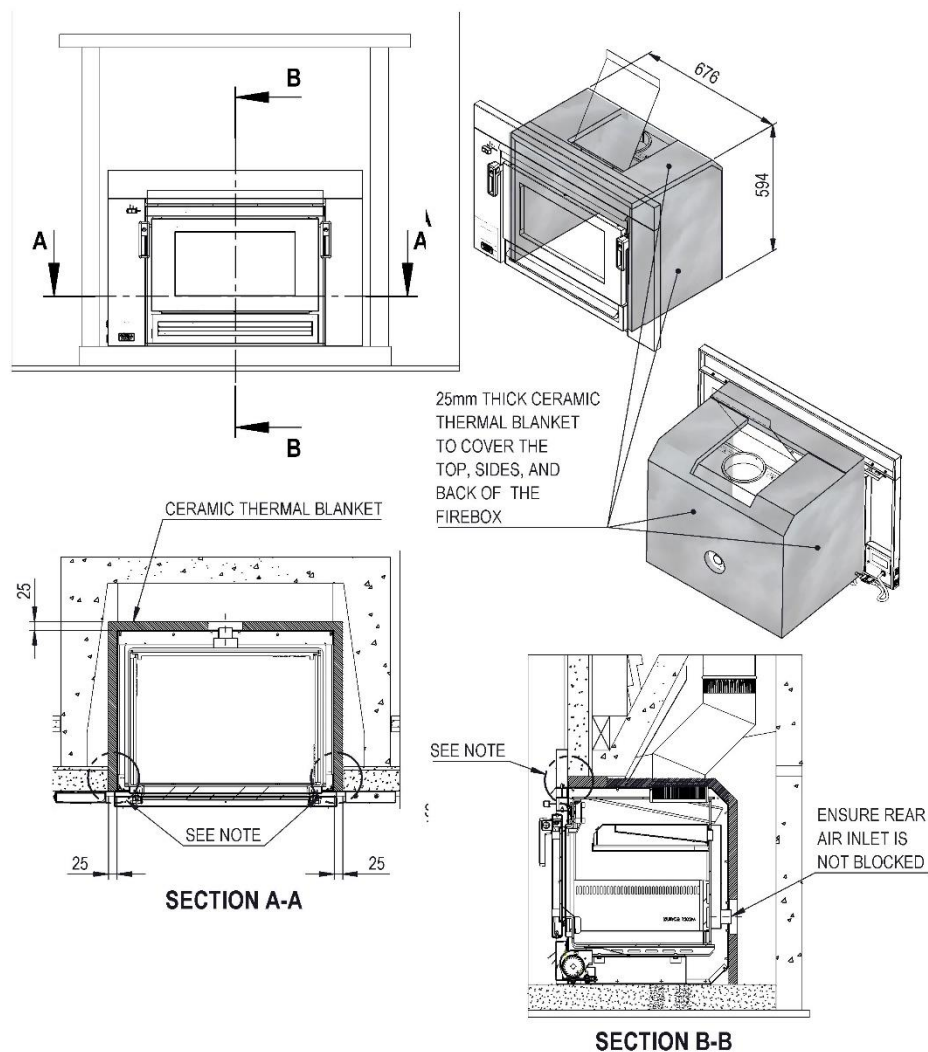

Fig. 7
O. Thermal Blanket Installation (Fig. 7)